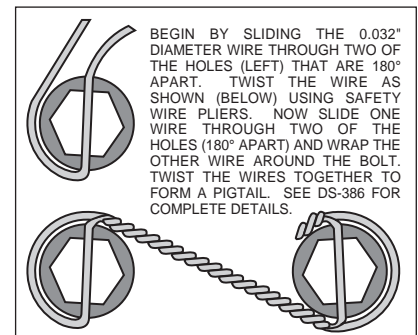

Figure 3. Safety Wire Diagram
- To accommodate several model years, multiple holes have been drilled in the caliper mounting bracket (1). Rotate the bracket until the two correct holes that align with the mounting holes in the face of the spindle are located. Apply red *Loctite*® 271 to bolt threads (2) before assembly of the caliper mounting bracket (1). Mount bracket (1) to dust face plate of spindle using bolts (2). Torque bolts (2) to 22 ft-lb. **NOTE:** Be sure the heads of the caliper bracket (1) insert nuts are facing outward toward the wheel.
- Install wheel studs (3) into the hub (4). Torque to 77 ft-lb. **NOTE:** There are two five lug patterns in the hub (5 x 4.50 and 5 x 4.75). Make sure of the correct hole pattern for the correct wheel application before installing studs into hub.
- Pack the large inner bearing cone (5) with high temperature disc brake bearing grease (available from your local auto parts store) and install into the backside of the hub (4).
- Install the grease seal (6) by pressing into the backside of the hub (4).
•Attach rotor adapter plate (7) to rotor (8) using bolts (9). Torque bolts (9) to 180 **in-lb**. Safety wire bolts (9) using standard 0.032 inch diameter stainless steel safety wire as shown in Figure 3. Please refer to Wilwood's data sheet DS-386 (available at www.wilwood.com/pdf/ds386.pdf) for complete safety wire installation instructions. **NOTE:** The large inside diameter side of the rotor (8) faces toward the rotor adapter plate (7) with the dished side of the rotor adapter plate (7) facing away from the rotor (8).
•Mount the adapter/rotor assembly (7 and 8) to the hub (4) using bolts (10). Torque bolts (10) to 22 ft-lb. Safety wire bolts (10).
•Pack the small outer bearing cone (11) with high temperature disc brake bearing grease and install into front of hub (4). Slide the hub/rotor assembly (4 and 8) with outer bearing cone (11) onto the spindle. Secure using stock washer, adjusting nut and nut locking device. Adjust bearings per Original Equipment Manufacturer (OEM) specifications.
•Install the dust cap (12) onto the hub (4). Friction created by the o-ring (13) on the dust cap (12) keeps it from unscrewing. The O.D. of the existing spindle washer may be larger than the I.D. of the dust cap (12) not allowing it to seat against the hub face. Some grinding on the washer O.D. may be necessary to clear the I.D. of the dust cap (12).
•**NOTE:** Please reference the caution statement at the beginning of the assembly instructions. With the bleed screws pointing up, mount the caliper (14) onto the caliper bracket (1) using lock washers (15), bolts (16) and caliper spacer (17). Finger tighten. View the rotor (8) through the top opening of the caliper (14). The rotor (8) should be aligned in the center of the caliper (14). If not, adjust the caliper (14) by using 0.032 inch thick shims (18) placed between the caliper mounting bracket (1) and the caliper spacer (17). Use as many shims as necessary to obtain the correct alignment. Finger tighten. Apply red *Loctite*® 271 to bolt threads (16) and torque to 30 ft-lb. Safety wire caliper bolts (16).
•Install the disc brake pads (19) and secure using cotter pin (20).